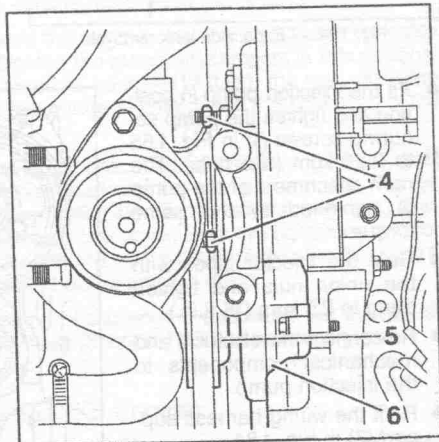

Fig. 1.87. — The parts referred to in the text are located as shown.
- At the front end of the engine remove two nuts (1), the guide roller (2) and the casing (3). You will have to refer to Fig. 1.87 to locate the parts.
- Remove the air intake hose leading to the air inlet manifold. On the inside remove the clip from the EGR pipe and then unscrew the air inlet manifold. The four bolts shown with the arrows must be removed. On the R.H. side disconnect the inlet pressure pipe (4). The connector for the needle lift sensor must also be connected.